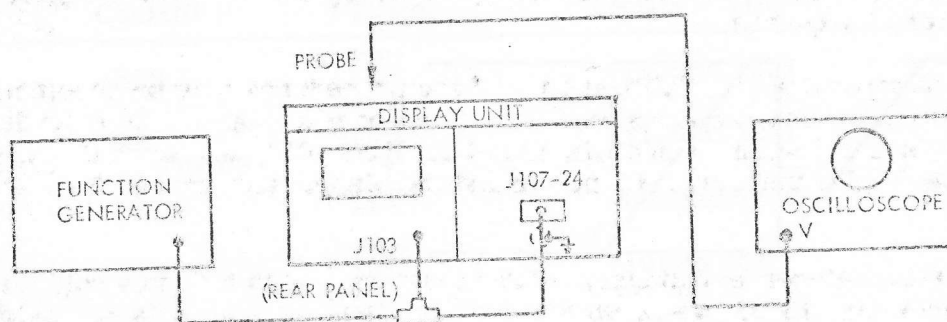

Figure 7-3. A102 Sweep and Vertical Amplifier Board Test Setup
- (2) Set oscilloscope for 10V/DIV vertical, 5 ms/DIV horizontal. Connect function generator (table 7-1) to J07-24 (figure 7-3). Apply probe to pin 8.
7-3.1.4 A104 High Voltage Divider and Blanking Board. With function generator (table 7-1) connected to J07-24 as shown in figure 7-3, set for 10V sawtooth, 1 kHz. Rotate INTENSITY front panel control fully clockwise, and adjust Maximum Intensity R16 so that display just avoids blooming at extreme CW setting of INTENSITY control. Set function generator amplitude and frequency for a full screen display pattern, and adjust Distortion R28 to obtain a rectilinear display.